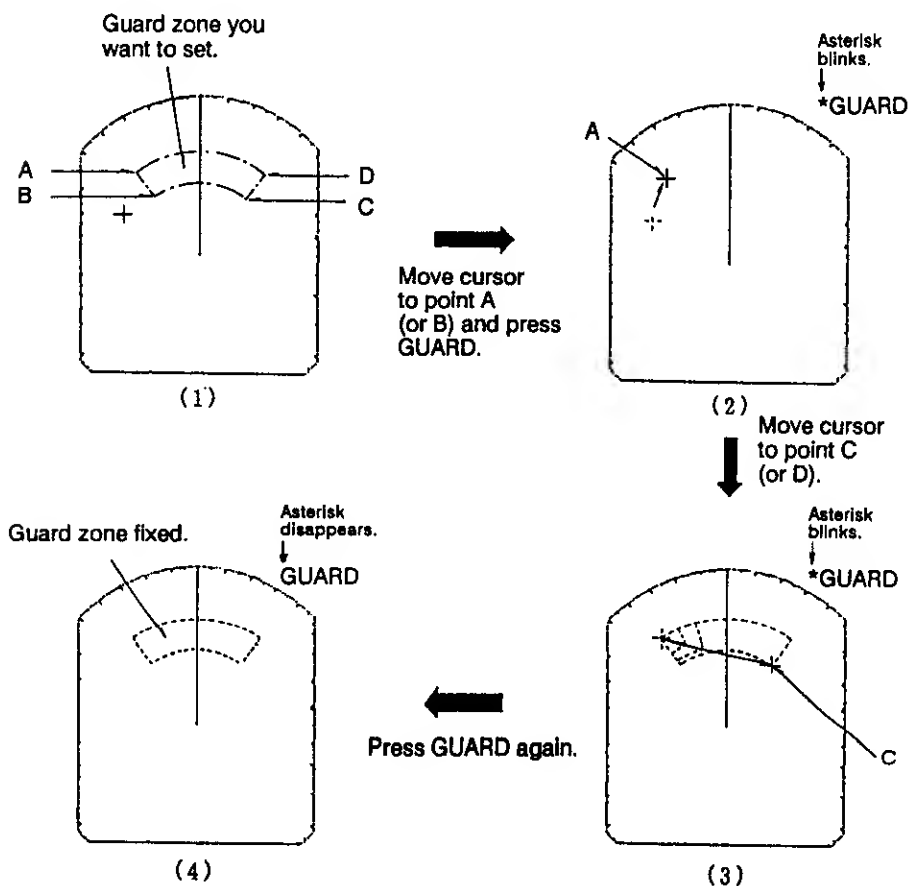

Figure 2-14 Setting Guard Zone
1. Mentally create the guard zone you want to display on-screen. See Figure 2-14 (1).
2. Set the upper (lower) left edge of the guard zone with the cursor. Press the **GUARD** touchpad. The indication "***GUARD**" (asterisk blinking) appears at the upper right-hand side of the screen. See Figure 2-14 (2). The asterisk indicates the guard zone is partially set, but the alarm function has not been actuated yet.
3. Moving the trackball clockwise, set the lower (upper) right edge of the guard zone. The guard zone now appears on the display but the alarm function has not been actuated yet. See Figure 2-14 (3).